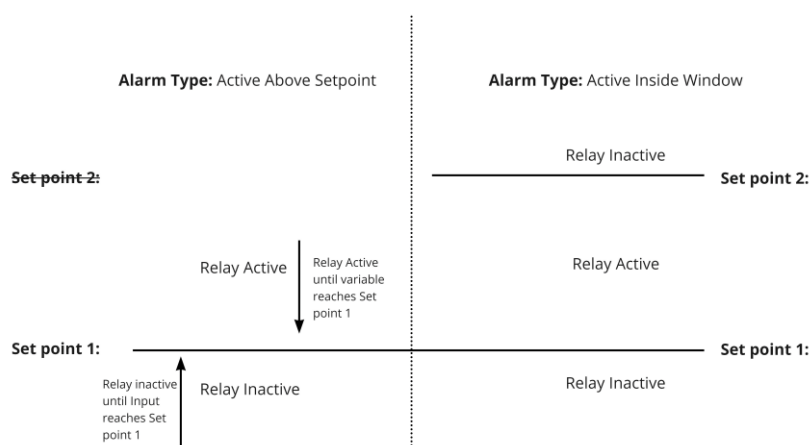

Figure 86: Alarm Type Function Diagram
- Alarm Type – The mode in which the alarm will function (Samples shown in Figure 86)